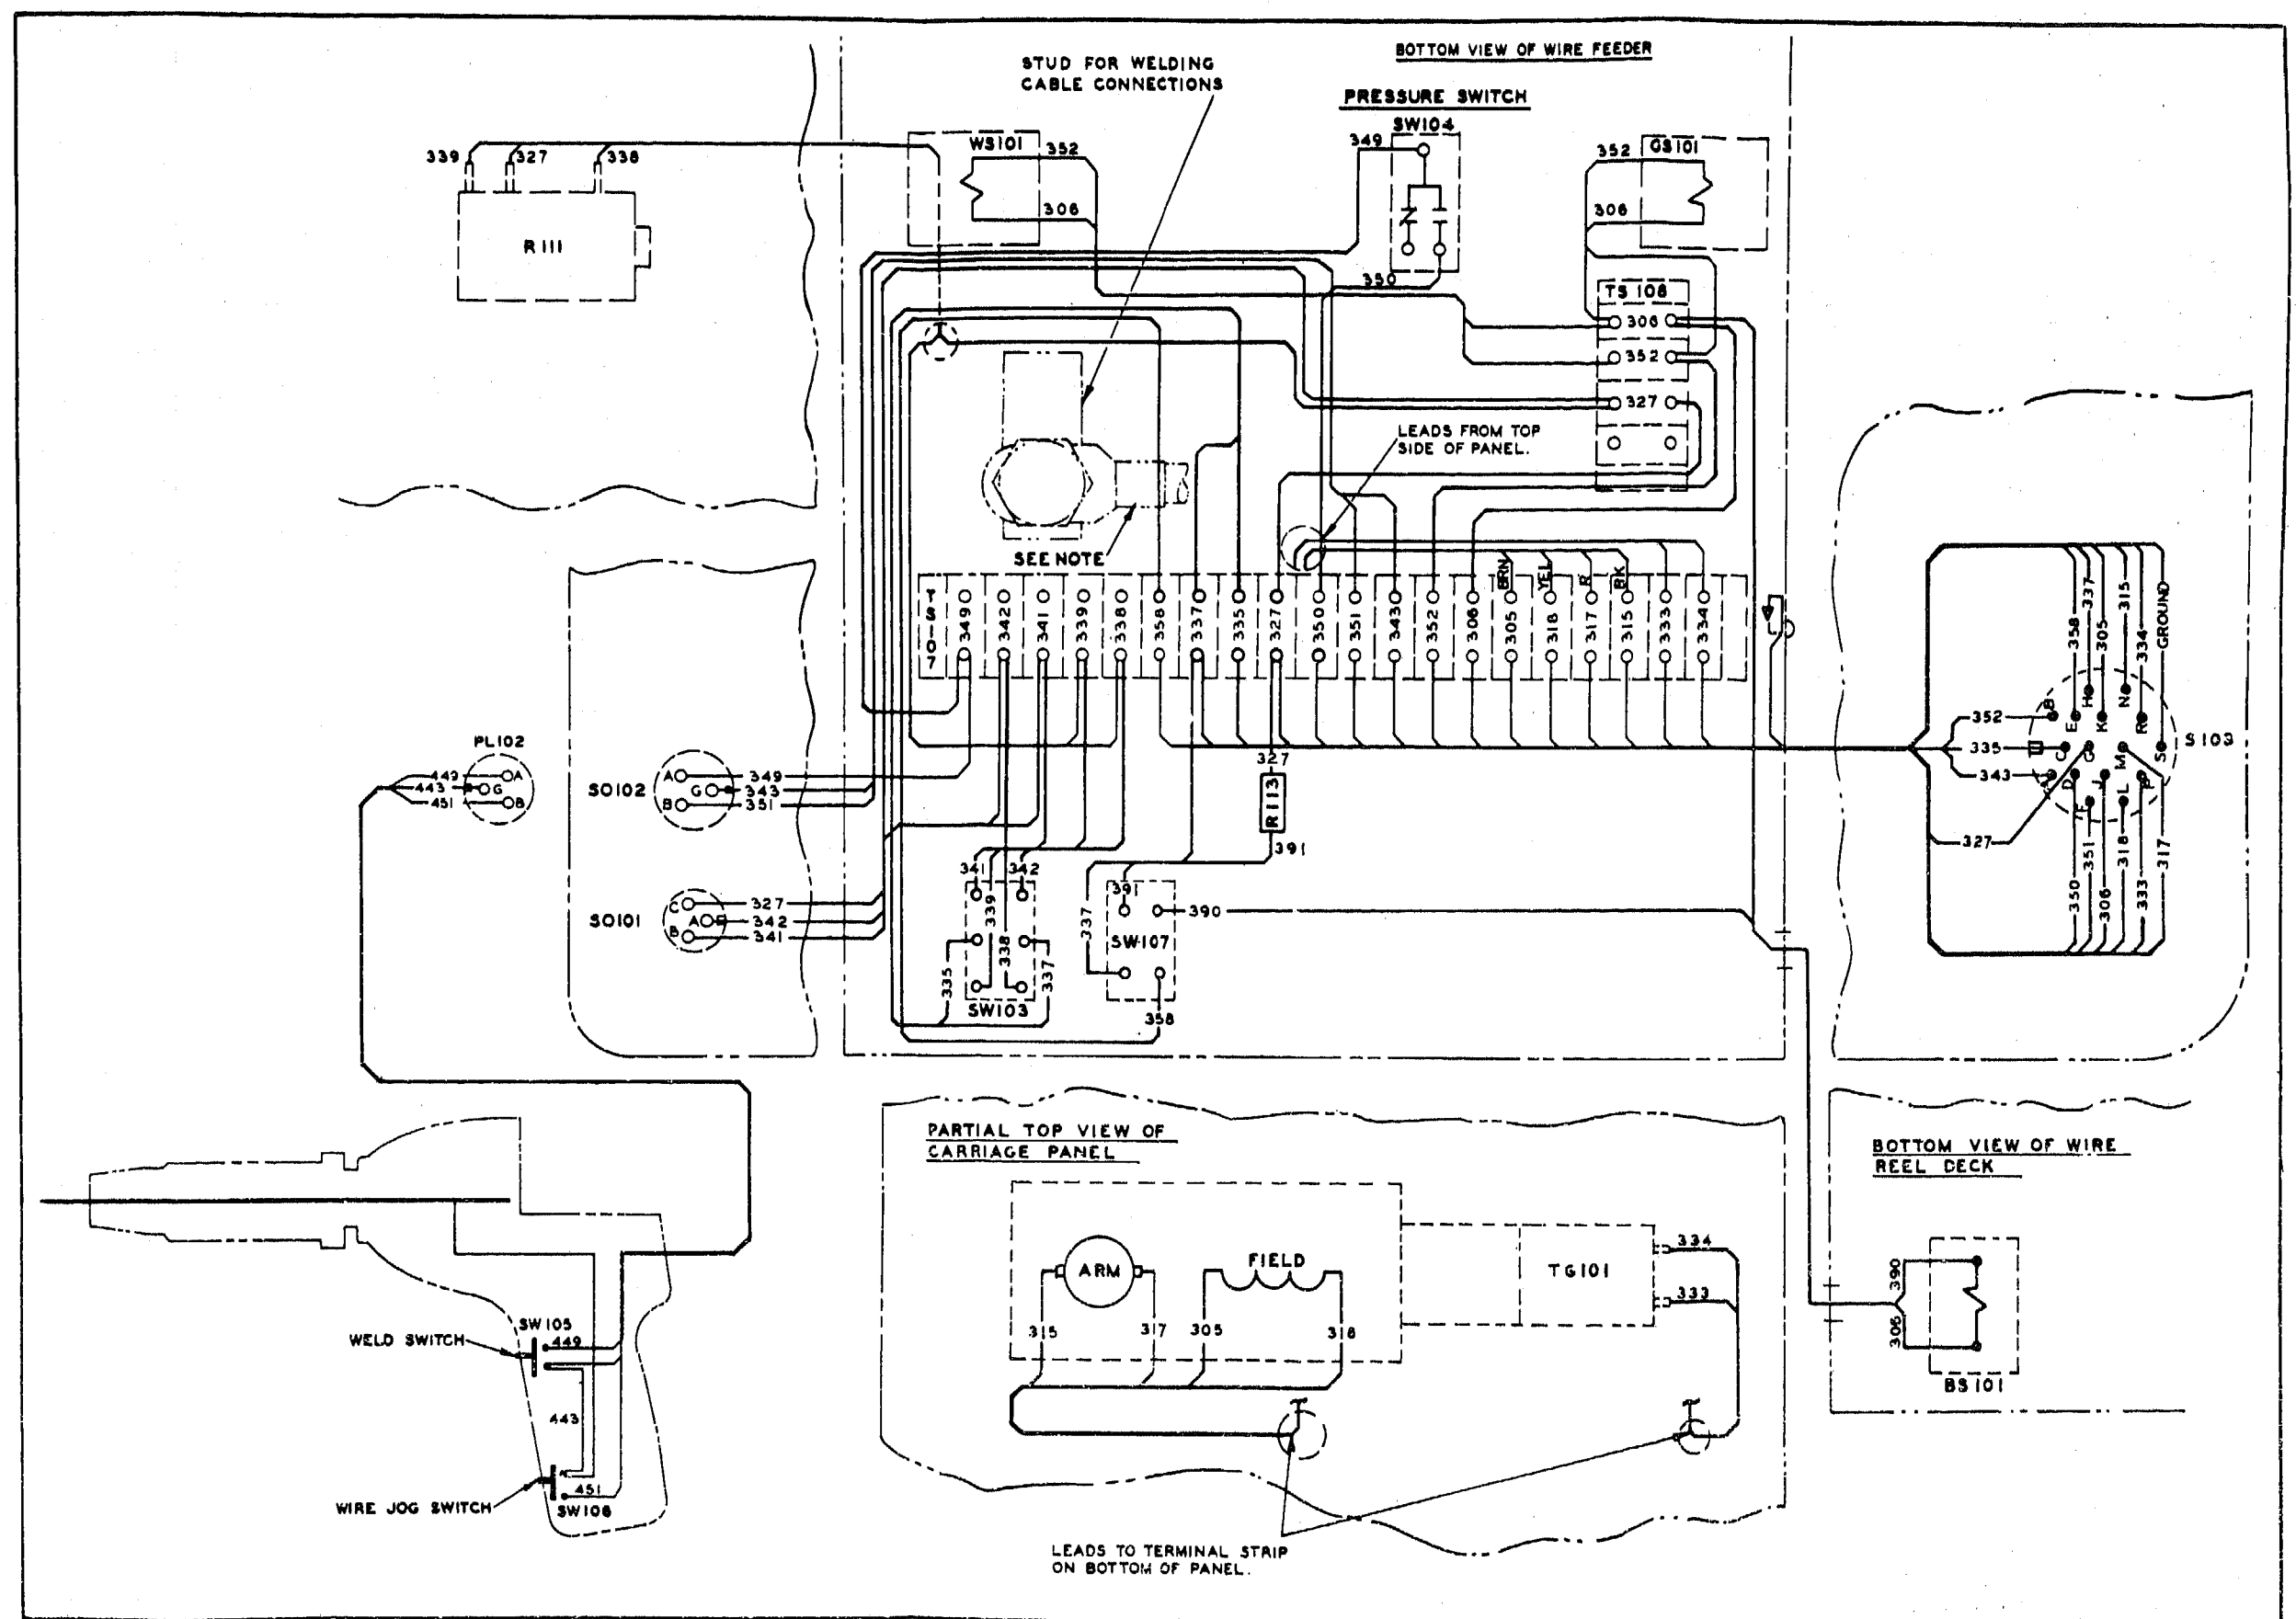

Figure 4. Wiring Diagram - Gun and feeder.
- (4) Refer to figure 4 for the gun and feeder wiring diagram.